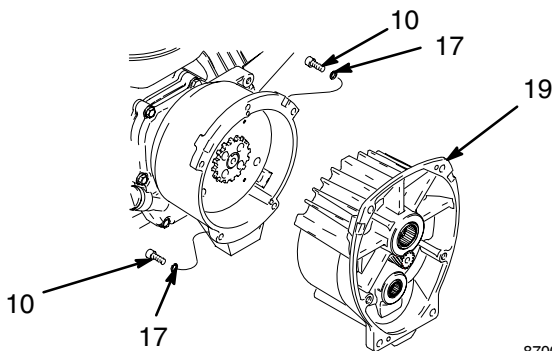

Fig. 5 8700A
4. Fig. 5. Remove five screws (10) and lockwashers (17) and pinion assembly (19).
9. Apply locktite to screws. Install four screws (16) and lockwashers (17). Alternately torque screws to 125 in-lb until rotor is secure. Use threaded holes to hold rotor.
10. Fig. 5. Install pinion assembly (19) with five screws (10) and lockwashers (17).
11. Fig. 5. Connect field cable (X) to pressure control.